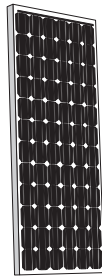

Figure P11.30 Solar panel daylight hours.
- 11-30.** Solar panels as shown in Fig. P11.30 can offset the use of fossil fuels as a source of energy. The average amount of sunlight per day for a solar panel is 7.3 hours, with a standard deviation of 3.2 hours. Assuming a normal distribution of sunlight, determine the probability of having sunlight between 3 and 11 hours a day.